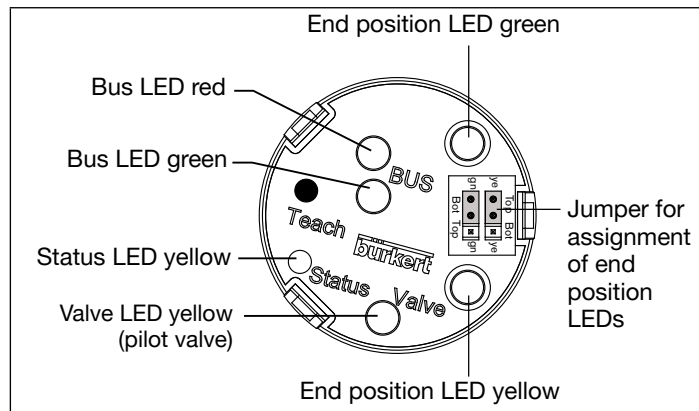

Fig. 17: Display Elements AS-Interface
4) Color setting ex works. Can be set via jumper (see "Fig. 17").